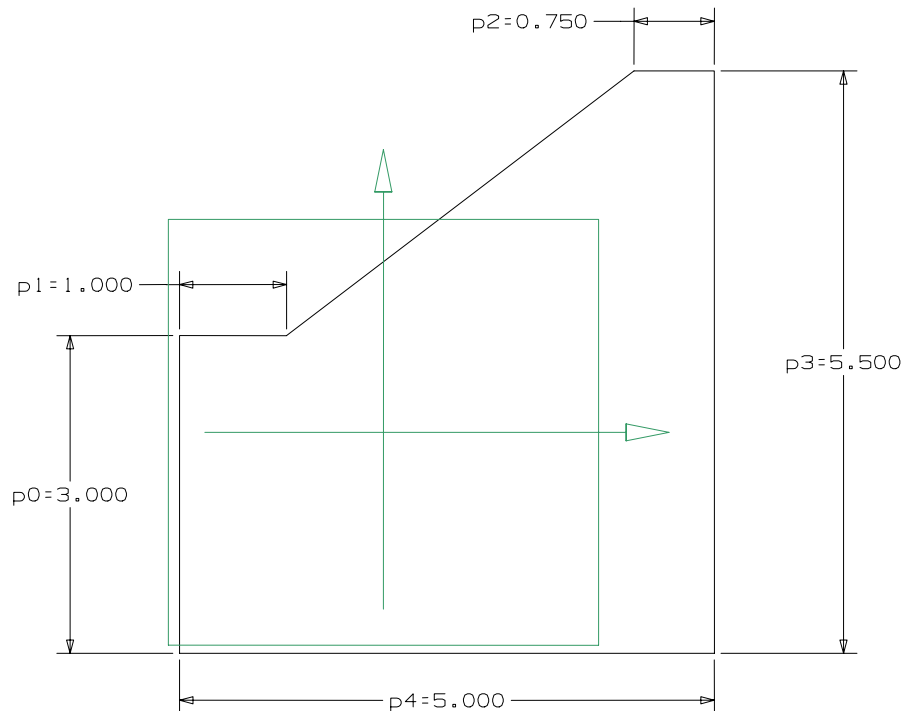

Figure 14
- Once you have created all the dimensions, you may now select on each of them and input the correct dimension value. Each time you type in a new value hit “Enter” on the keyboard to apply the change, and the shape will update immediately. When you are finished, the sketch should appear as shown in Figure 14.